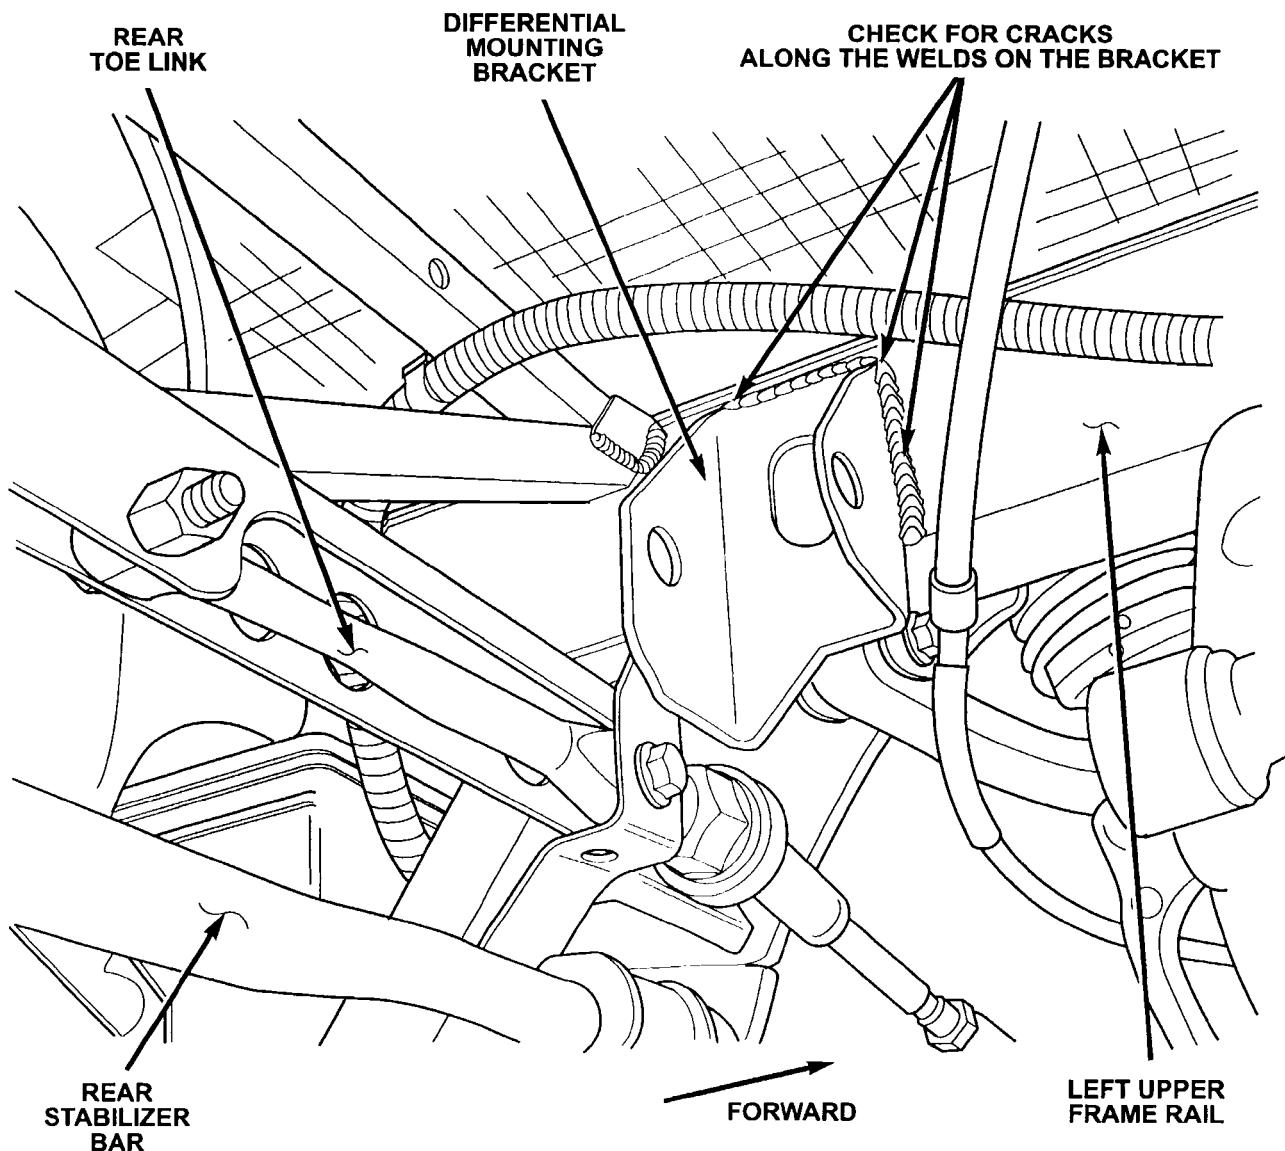

Figure 15
14. Inspect all sides of the left differential mounting bracket for weld cracking at the frame rail and at the toe link brackets (Figure 15).